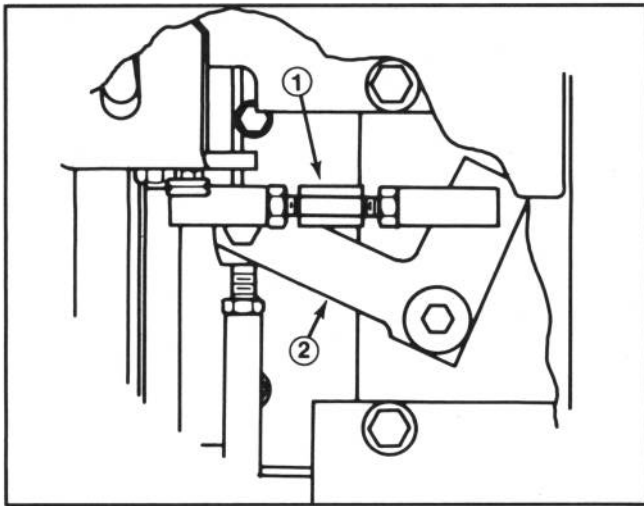

Figure 30
3. If lever is not centered, loosen jam nuts and rotate tie rod until lever is correctly positioned in neutral slot (Fig. 30). Tighten jam nuts.